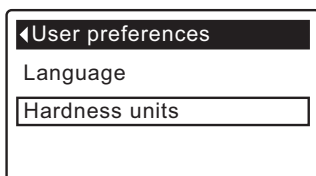

FIG. 51
3. Press the OK/MENU button to display the User preferences menu (See Figure 51).